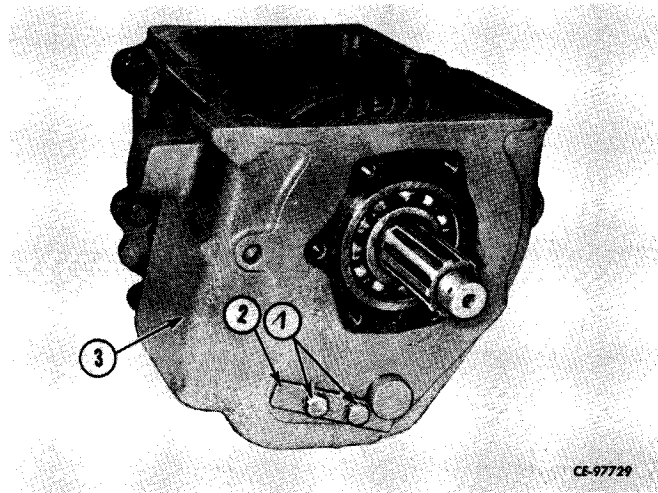

Figure 4-61
Position countershaft lock plate (2, Fig. 4-61) in shaft groove and install and tighten cap screws and lock washers (1).